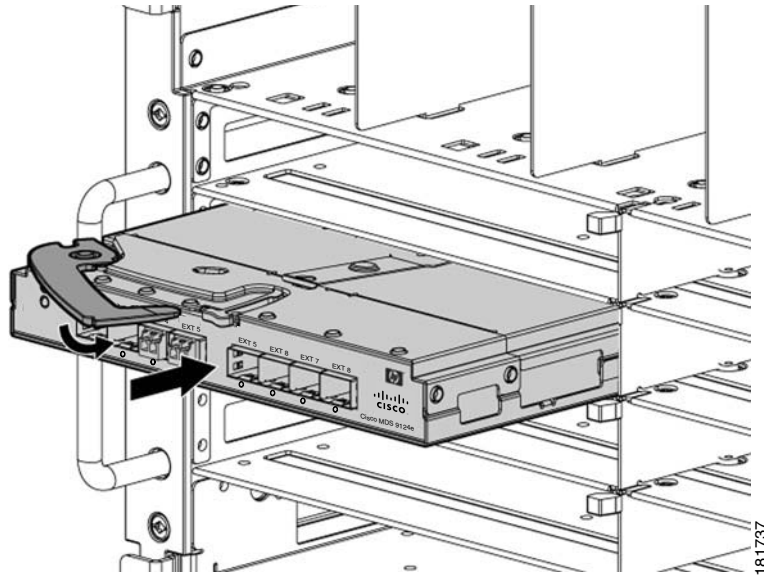

Figure 5 Installing the Cisco MDS 9124e Fabric Switch into an interconnect bay
5. Push firmly into the interconnect bay. See Figure 5.